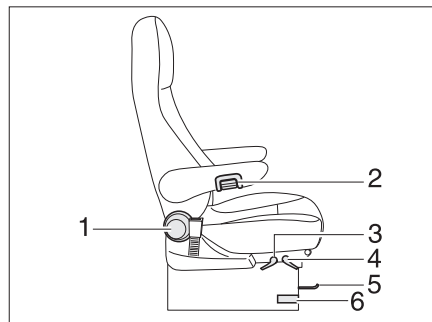

Fig. 91 Driver's and front passenger's seats
- Push or pull the lever to turn the seat (Fig. 91,6). The seat is released from the locking device.